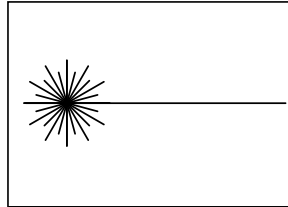

Figure 2.6 7035 Scanner Warning Indication
- Test the scanner by pointing it at a light coloured surface and pressing the scan key or the pistol grip trigger. The scanning beam should be energized and the warning indicator (shown in Figure 2.6) should be displayed.